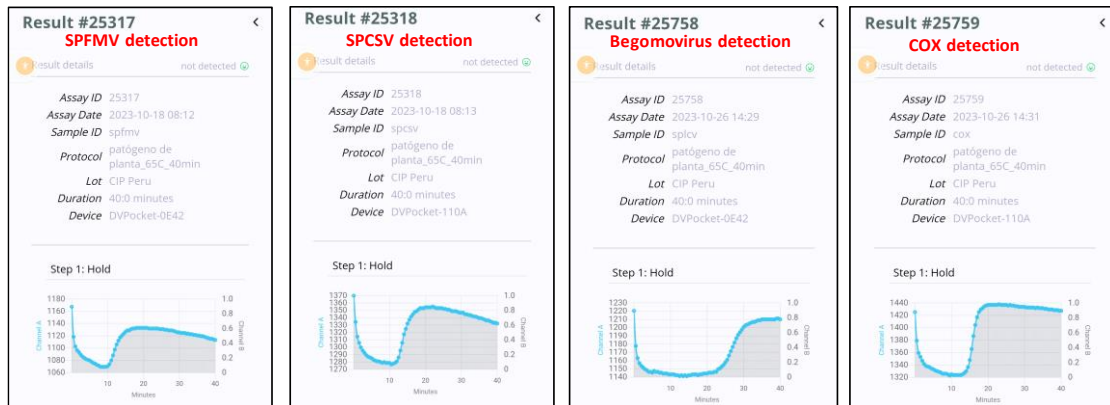

Figure 4. Results are shown as amplification plots (fluorescence vs time during amplification), which are displayed on the smartphone screen.
- Tap on each listed test to view its result summary (see Fig. 4)
- A positive result is indicated by a typical sigmoid (“S”-shaped) fluorescence curve. The signal begins with a slow increase, followed by a rapid (exponential) rise, and finally plateaus—forming a characteristic “S” curve (see Fig. 4).